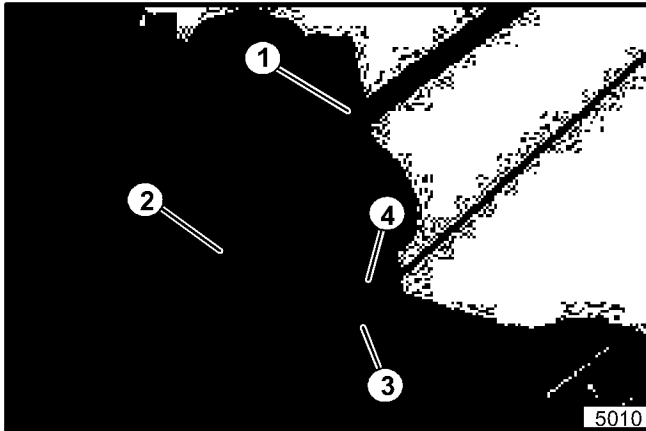

Figure 7. Clutch Control Installation
13. Attach the clutch control rod to the drive belt idler assembly using a clevis pin, washer and cotter pin (see figure 7).
14. Hook the clevis of the clutch cable to the reel belt idler trigger (see figure 7).